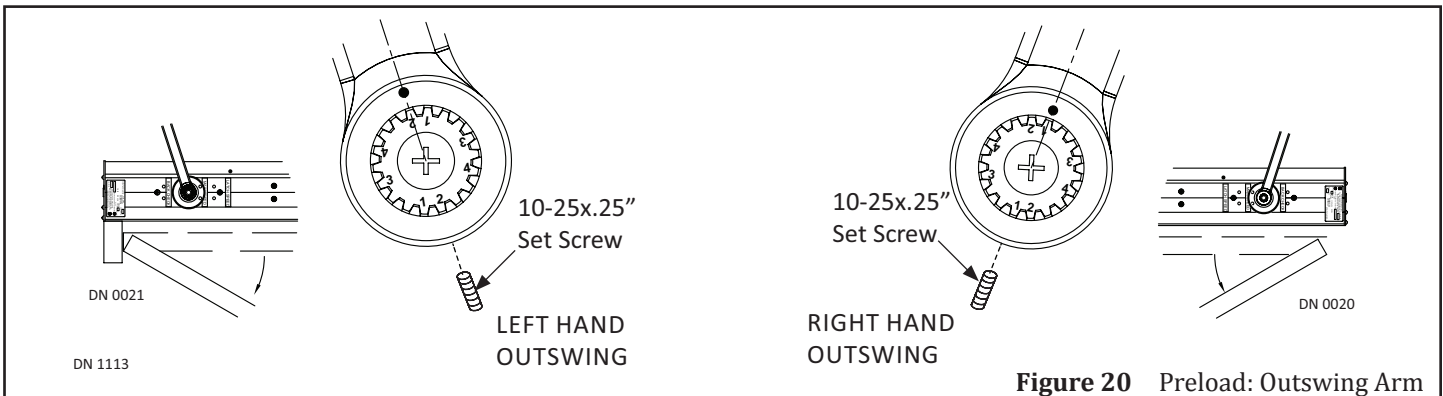
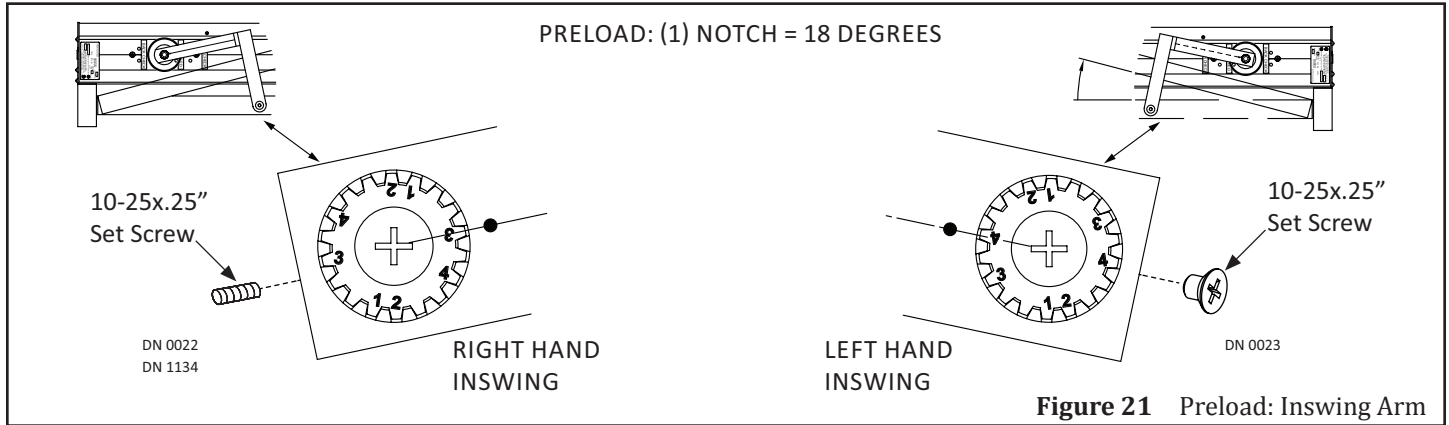
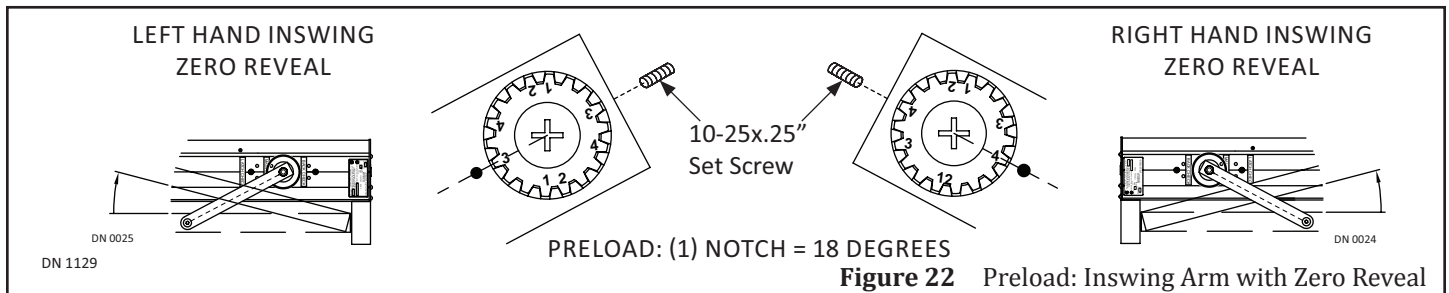

Figure 20 Preload: Outswing Arm
Figure 21 Preload: Inswing Arm
Figure 22 Preload: Inswing Arm with Zero Reveal
3. Please see Figure 20, or Figure 21, or Figure 22.